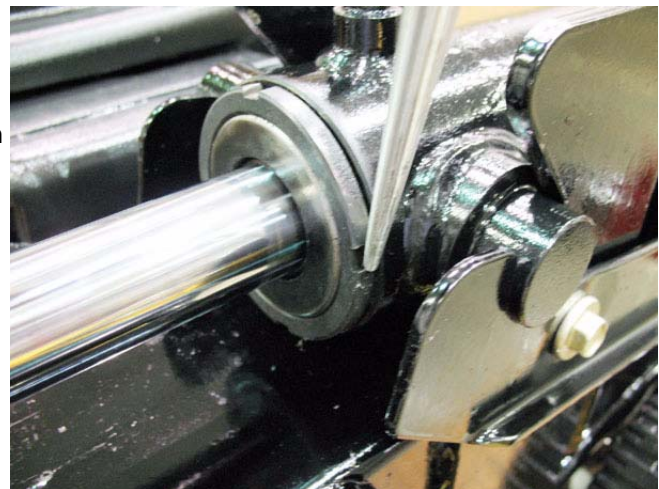

Figure 5.16
- 2.42. Install the lock ring; apply threadlocking compound such as Loctite 262™ (red) to the threads, and tighten it with a spanner or a hammer and drift. See Figure 5.16.